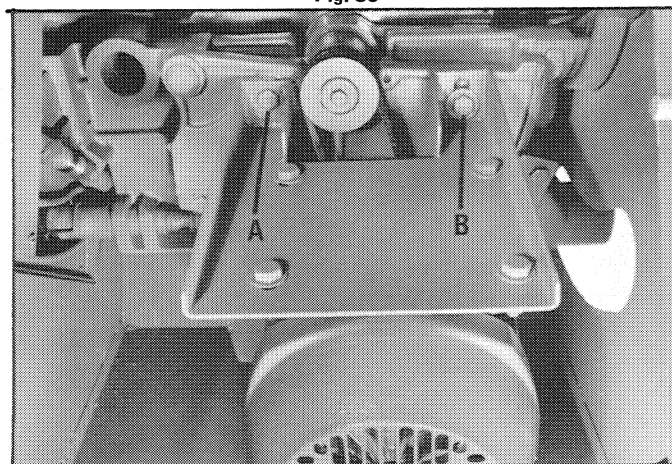

Fig. 37
To adjust belt tension loosen two screws (A) and (B) Fig. 37. The weight of the motor will be sufficient to provide proper tension to the belts. Then tighten two screws (A) and (B).